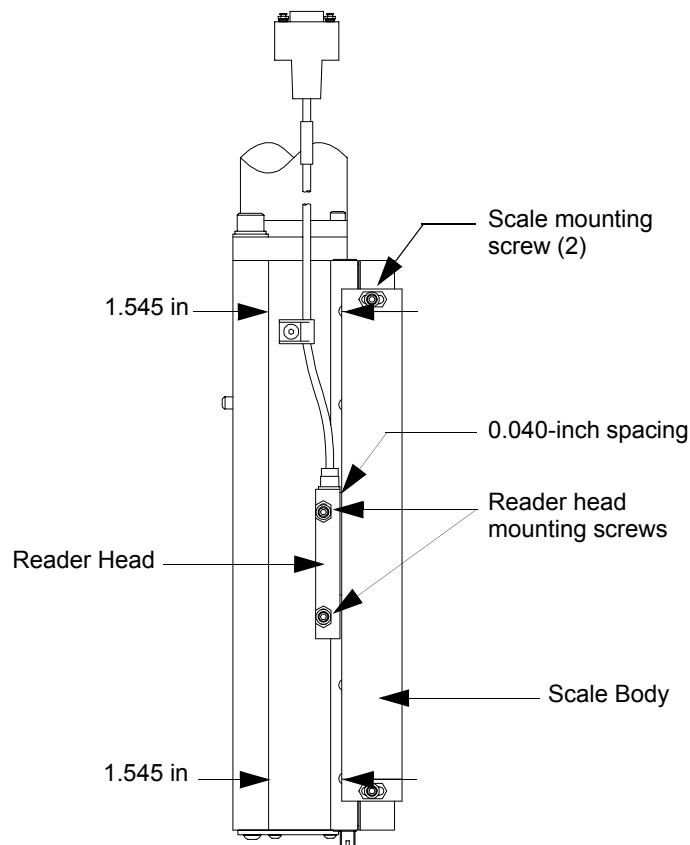

Figure 9-11 Z-Axis Scale and Reader Head
3. Unplug the Z-reader head cable, cut any tie-wraps holding the scale cable down, and remove the clamp using a 3/32-inch Allen wrench; see Figure 9-11.